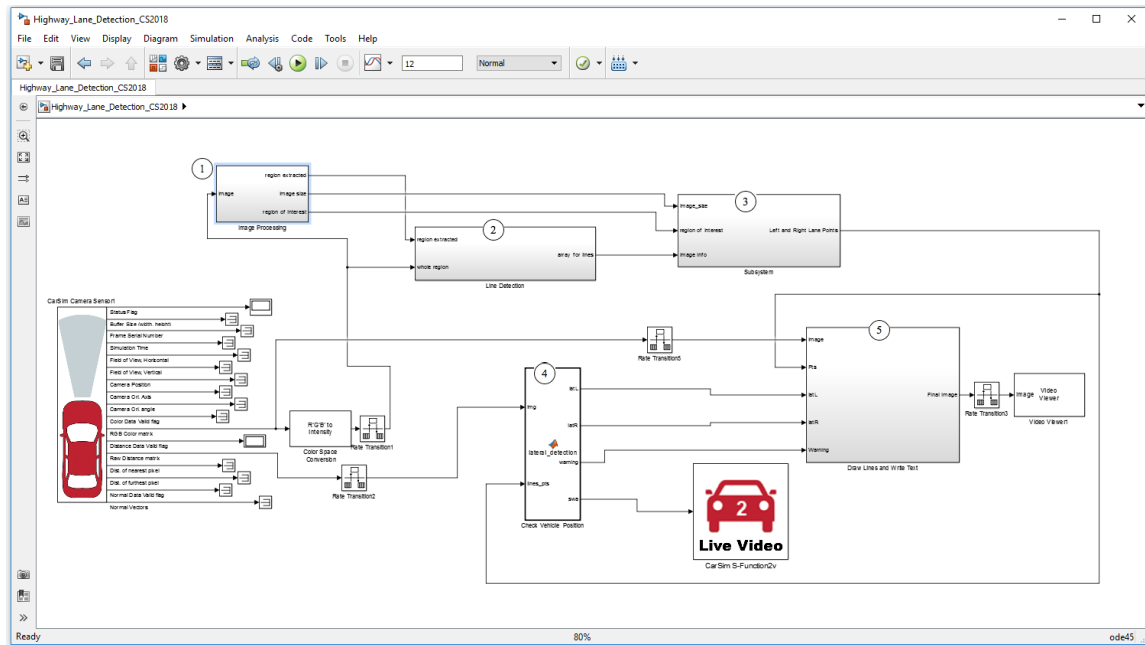

Figure 21. Highway Lane Detection Simulink Mode.
1. The RGB color image is converted to gray scale, and the edge detection method is applied. Isolate the region of interest (① in Figure 21). The region of interest is defined inside ① block. Depending on the road or the location of the camera sensor, the user can change the size of the area of interest.
2. The lanes are detected using Hough transformation (②).
3. Obtains the locations of those lanes (③). Here, once the lanes are detected in (②), it uses a simple geometry to get the upper and lower points on the right and left lanes around the region of the interest. In this example, it also retains those four points on the lanes for the three previous time steps, and if the lanes are not correctly detected in the current time step, it uses the points in the previous steps. This part of the calculation might not be necessary depending on the image of the lane.
4. Calculate the distance based on the field view information from CarSim (④). Using the depth matrix output and the geometry, the lateral distances to the both lanes from the center of the camera are calculated. In this example, the field of view of 55.0 deg. is used. This value needs to be matched with the one entered in CarSim. Inside ④ block, the field view is defined as fov variable. If the user changes the field of view value in CarSim, the fov variable needs to be updated. In this block, the steering wheel angle variable called swa is also hardcoded. This angle is used to turn the steering wheel opposite way when the vehicle drifts.